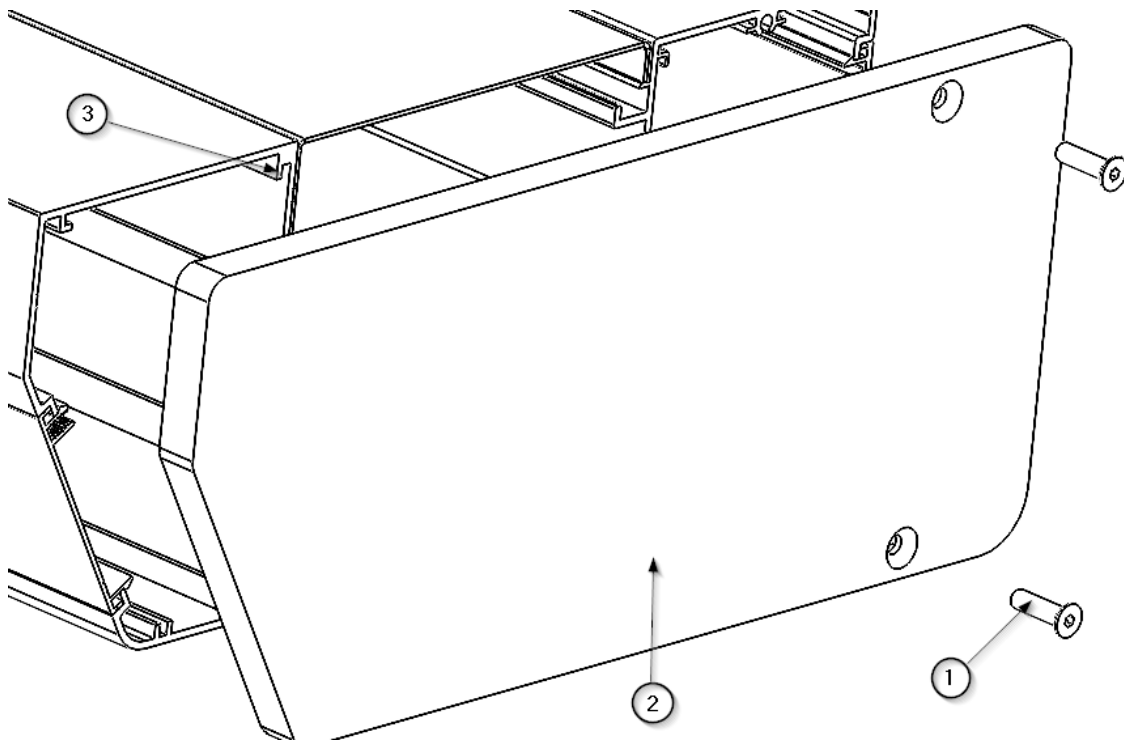

Fig. 2 Disassembly/assembly of end caps on main body TOR
- Now move the upper covers of the main body ① closest to the pressure sides with your hands, first moving them in the direction of the main body and, once the downpipe ② has been saved, pulling them upwards. See figure 2.